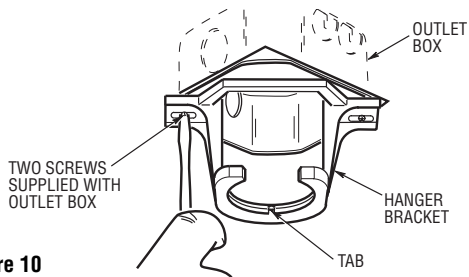

Figure 10
- 1. Securely attach the hanger bracket to the outlet box using the two screws supplied with the outlet box. (Figure 10.)